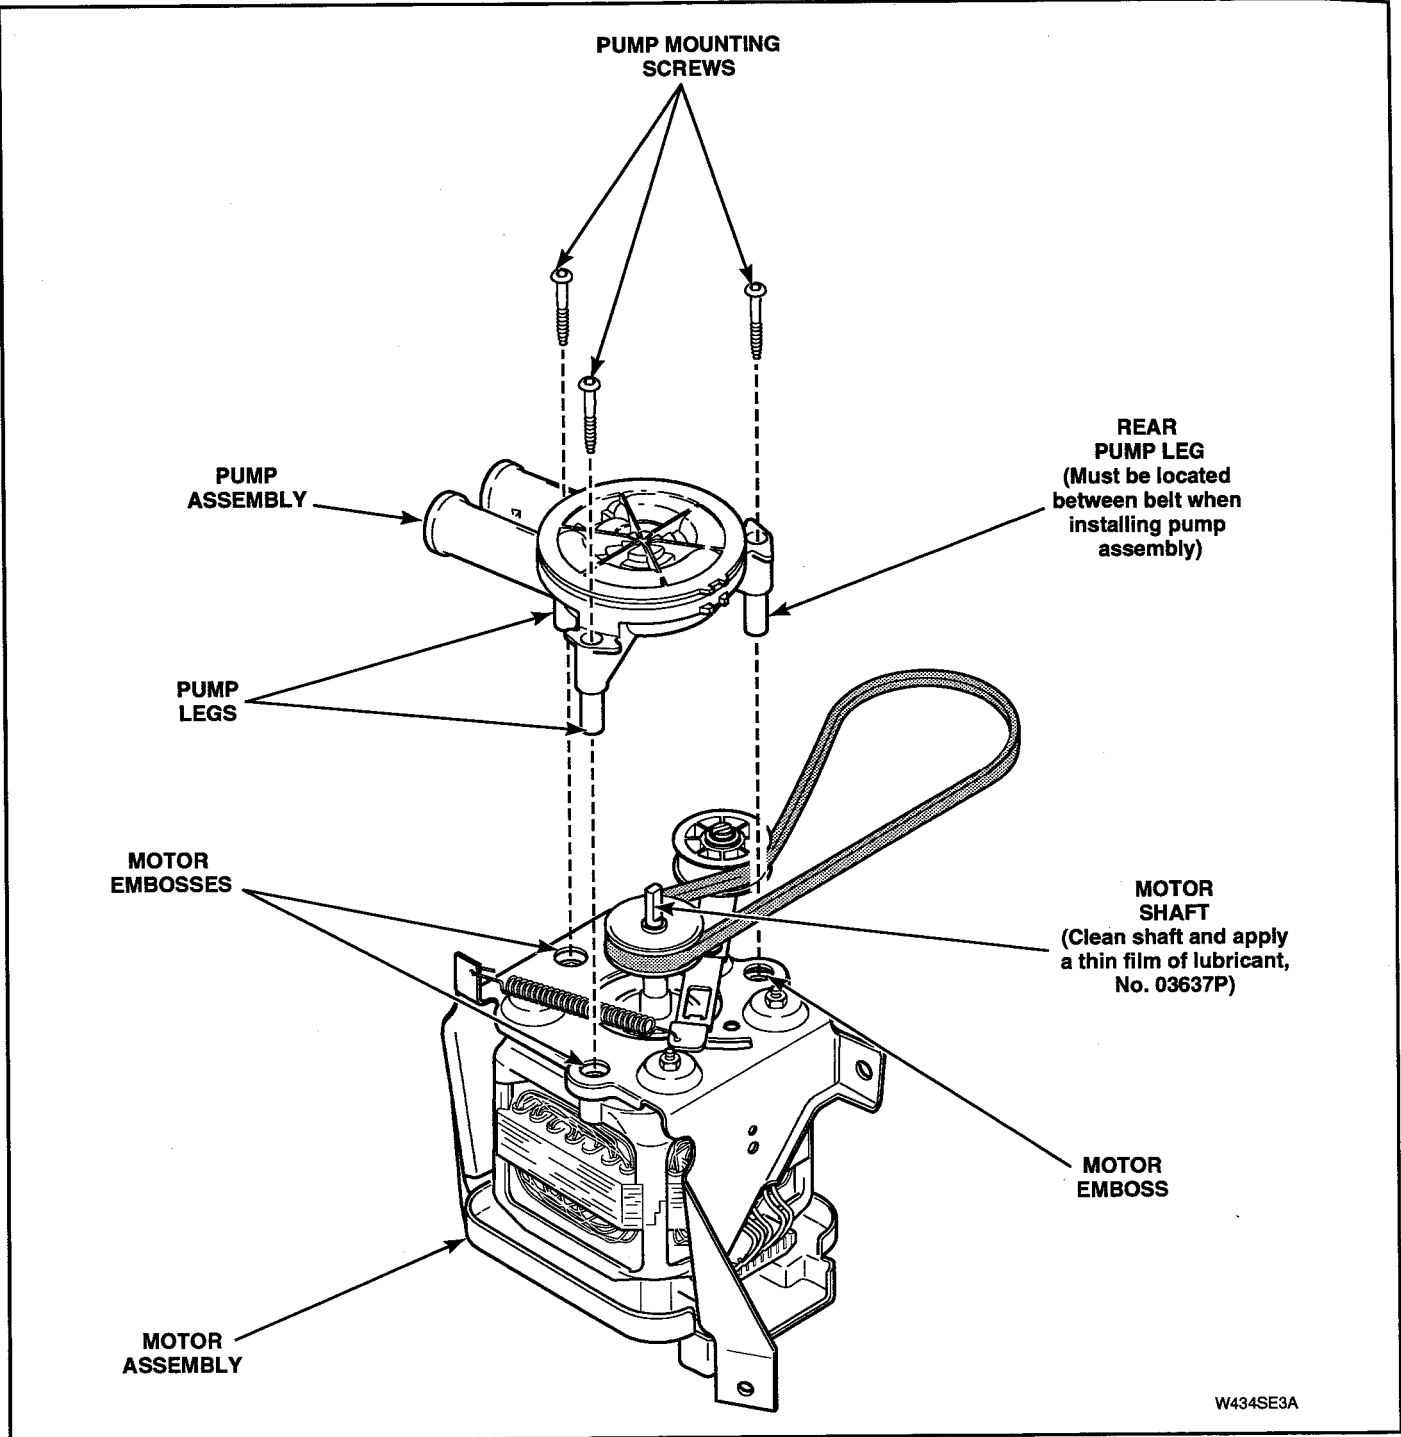

Figure 5-19
IMPORTANT: Carefully lay motor on its side. Observe belt configuration around rear pump leg. Belt **MUST** encircle rear pump leg when reassembling. See Figure 5-19.
- Remove three screws holding pump assembly to motor. See Figure 5-19.
- Align pump impeller hub with motor shaft. Make sure belt encircles rear pump leg, carefully push pump onto motor shaft so three pump legs bottom out in the embosses on motor housing before screws are tightened. See Figure 5-19.